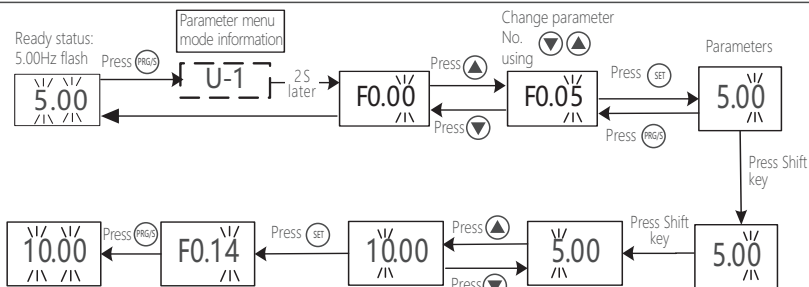

Figure 7-10 Parameter setup in Simple menu mode
a) See Figure 7-10 for function parameter setup in Simple menu mode: